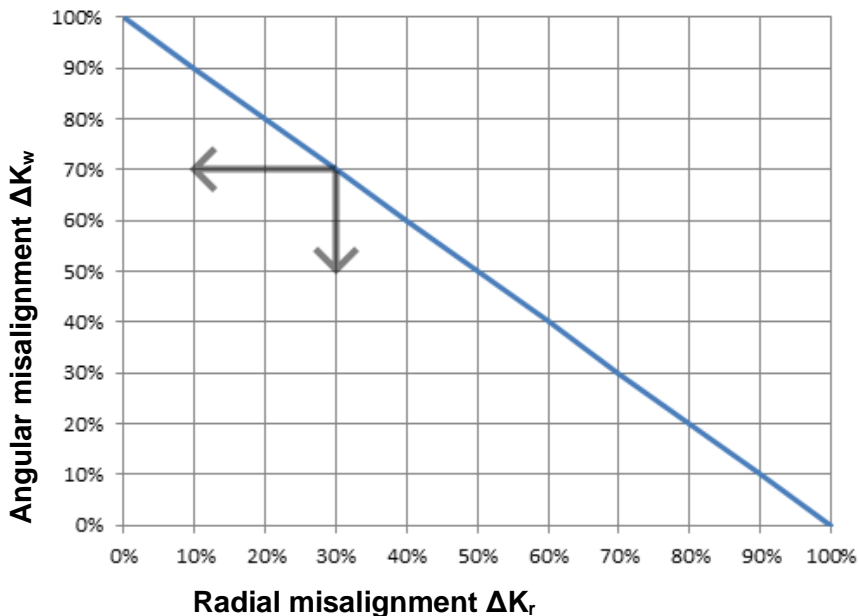

Figure 7.3: Misalignment combination
Figure 7.3 shows the relationship for radial (K_r) and angular misalignments (K_w) occurring at the same time:
- the form and positional tolerances in accordance with DIN ISO 286 are adhered to (see figure 7.3).